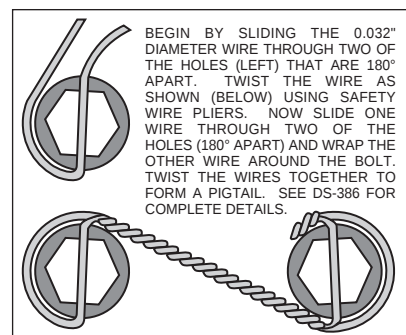

Figure 4. Safety Wire Diagram
- With the larger I.D. side of the rotor (5) facing away from the hat (6), bolt rotor (5) to hat (6) through the backside of the rotor using washers (7) and bolts (8). Using an alternating sequence, apply red *Loctite*® 271 to the threads and torque bolts to 155 **in-lb**. For an added measure of security, the bolts may be safety wired using standard 0.032 inch diameter stainless steel safety wire as shown in Figure 4. Please refer to Wilwood's data sheet DS-386 (available at www.wilwood.com/Pdf/DataSheets/ds386.pdf) for complete safety wire installation instructions. Slide the rotor/hat assembly onto the hub. Install a couple of lug nuts (finger tighten) to keep the rotor/hat assembly in place while continuing with the installation.